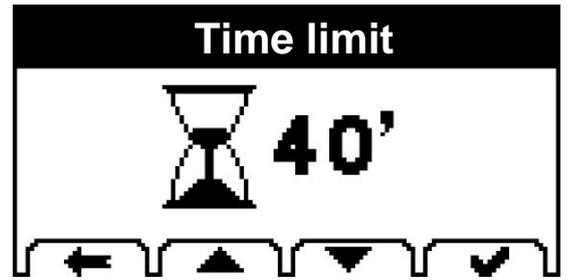

Fig.5.6
- Select the maximum drying time. Increase or decrease the time limit for the drying period with the  and  keys (Fig. 5.6).